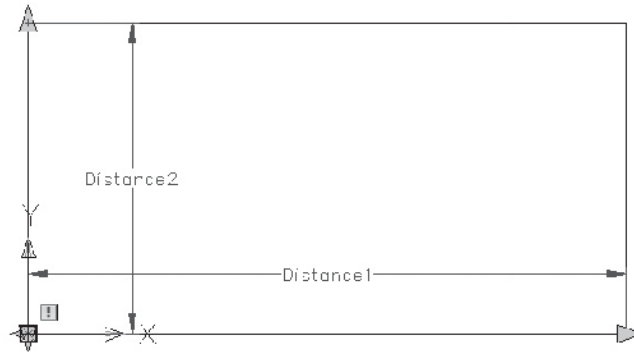

Fig. 34-3
5. From the **Block Authoring Palettes** window, pick **Linear Parameter** again. This time, pick the lower left corner for the start point and the upper left corner for the endpoint. Place the label inside the bed, as shown in Fig. 34-3.